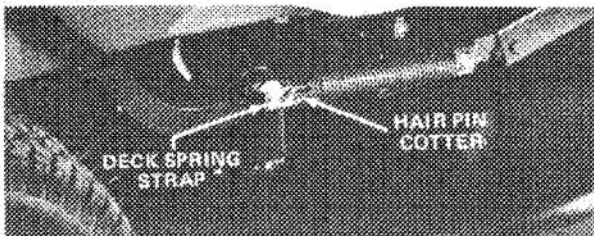

Figure 23
2. Set cutting unit down in lowest height-of-cut position, remove the hair pin cotters and washers securing the deck spring straps on both sides (Fig. 23) and pull straps off clevis pins.